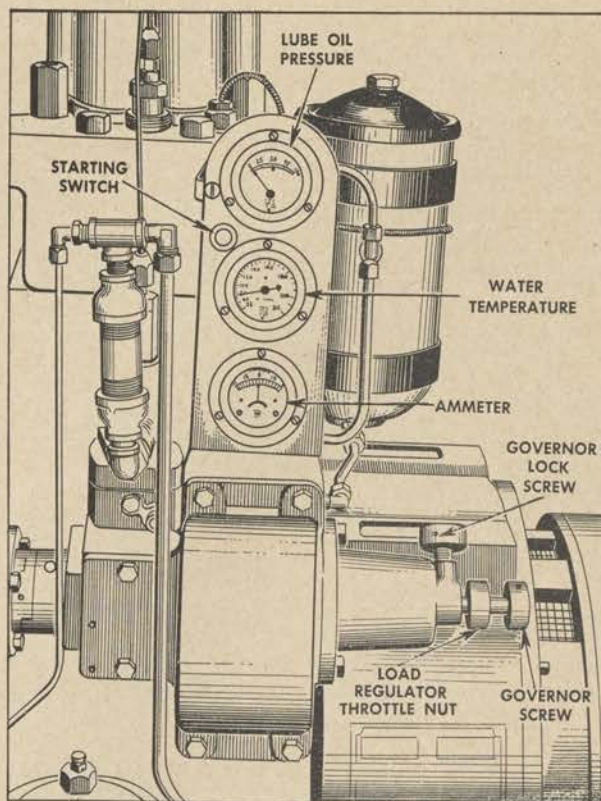

Fig. 83. Auxiliary generator engine controls.
a. STARTING AUXILIARY DIESEL. (1) Before starting the engine, perform before-operation inspection described in paragraph 35.
(2) Prime the fuel system as described in paragraph 53c (7).
(3) Press the starting button on the left-hand side of the instrument panel. (See fig. 83.)
(4) With the right hand, loosen the governor lock screw on the fuel pump about one-half turn and turn horizontal governor screw about half-way into the fuel pump.
(5) With the governor screw turned into the fuel pump a sufficient distance, the engine will start promptly.
(6) Release the starter switch as soon as the engine begins to fire. Throttle the engine down to a point where it will idle conveniently (600 or 800 rpm) by turning the governor screw out of the fuel pump. Allow to idle for about two minutes until engine warms up before throwing on full load.
b. STOPPING ENGINE. (1) To stop the engine, turn the governor screw (fig. 83) out until the engine stops.